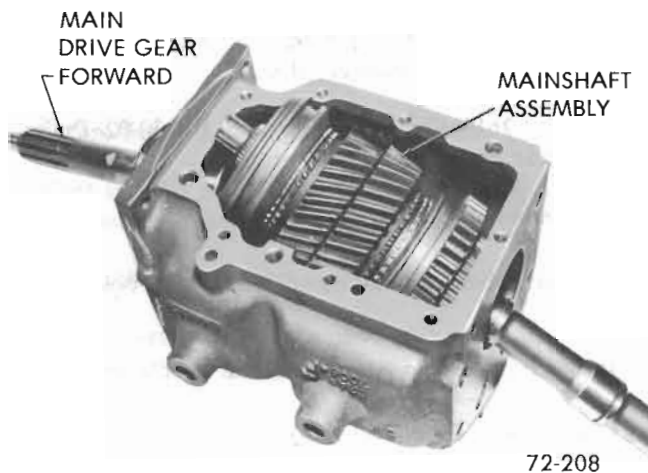

Figure 72-90 - Installing Mainshaft
6. Position mainshaft assembly in case. See Figure 72-90.